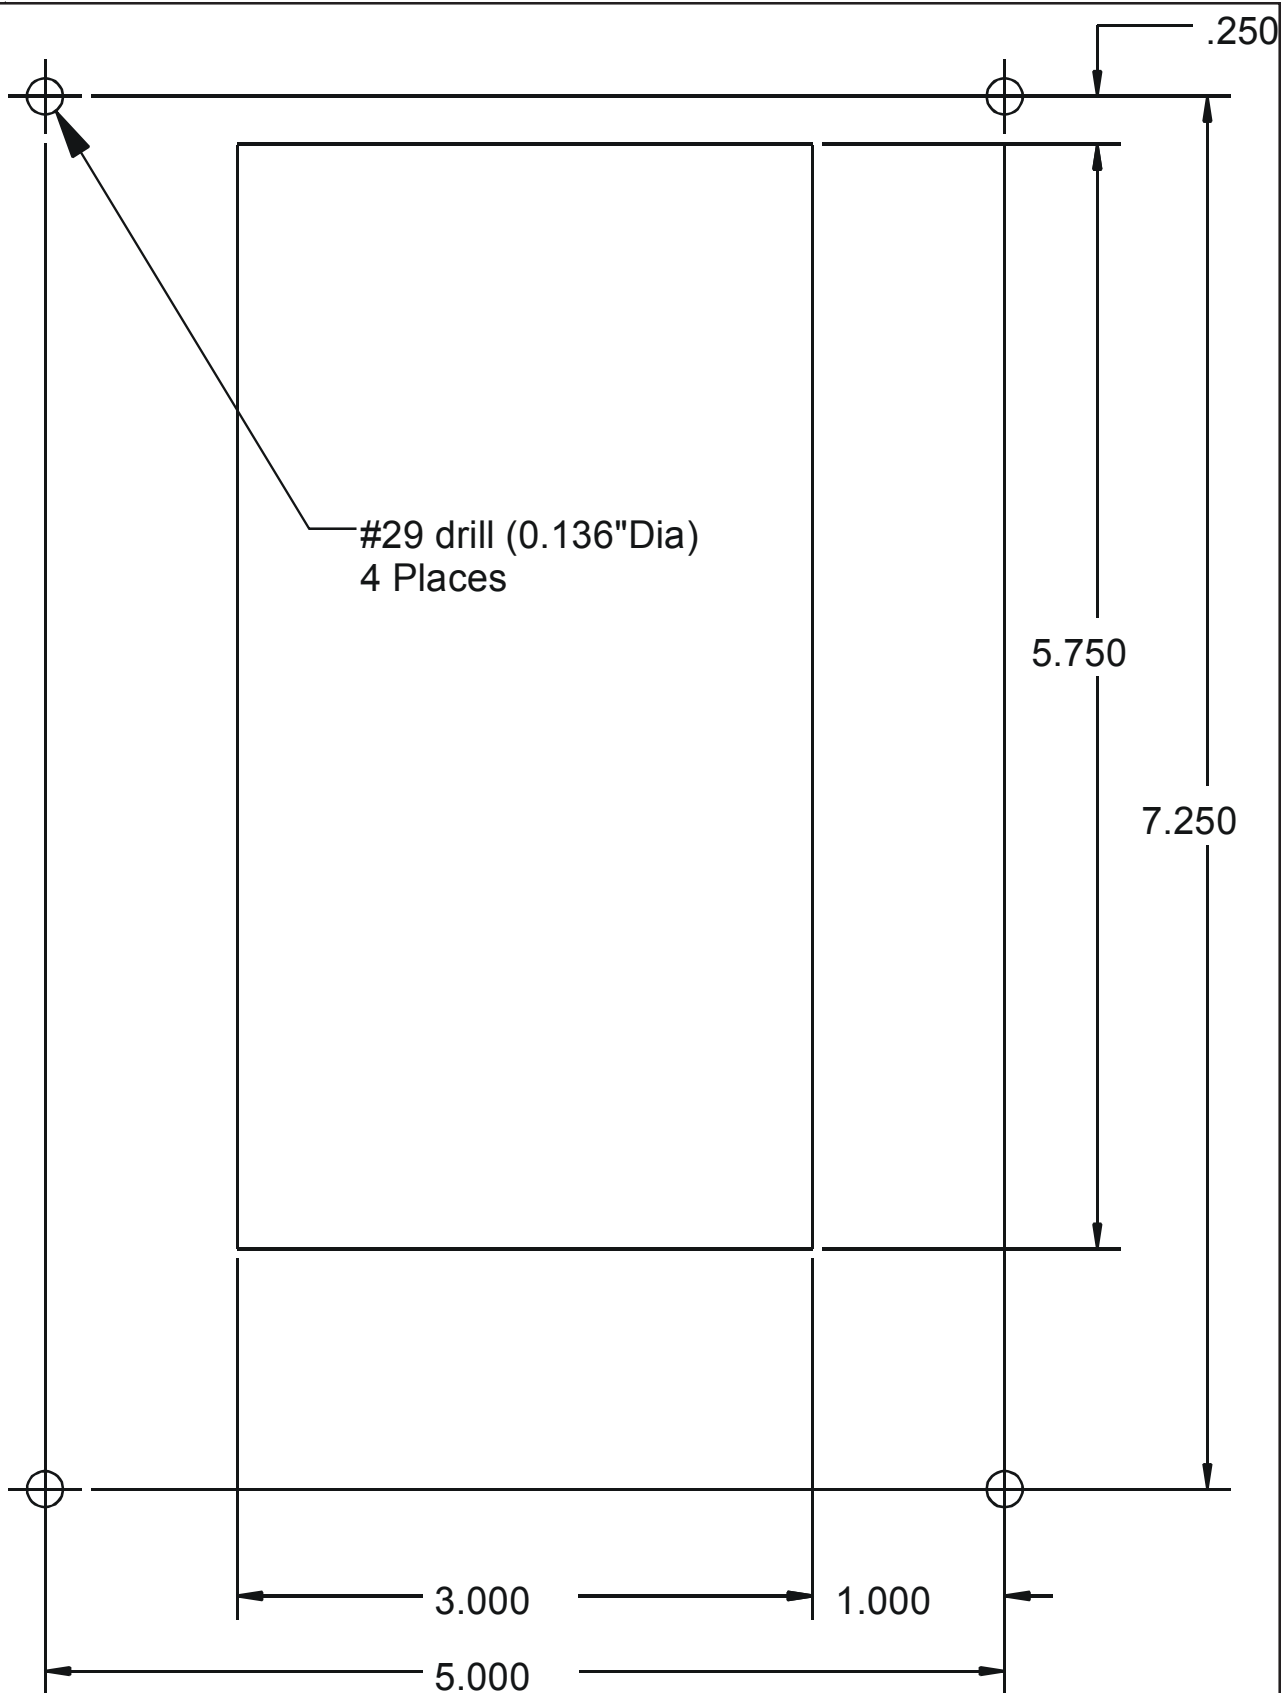

Figure 2 Hole Template
2. Place the Hole Template (Figure 2) in position and center punch in 4 places.